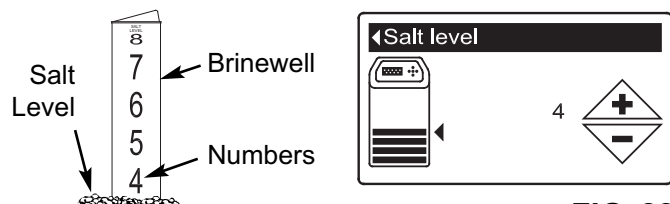

FIG. 28
1. When the conditioner/refiner is displaying the rolling status screens, open the salt lid. The tank light turns on and the Salt level screen appears (See Figure 28).
2. After adding and leveling salt, observe the numbered scale on the brinewell (See Figure 28). Press UP (▲) or DOWN (▼) to match the lowest number visible above the salt.
5. Press the SELECT (O) button to display the Salt level screen (See Figure 28). This screen will not automatically exit for 15 minutes.
6. After adding and leveling salt, observe the numbered scale on the brinewell (See Figure 28). Press UP (▲) or DOWN (▼) to match the lowest number visible above the salt.